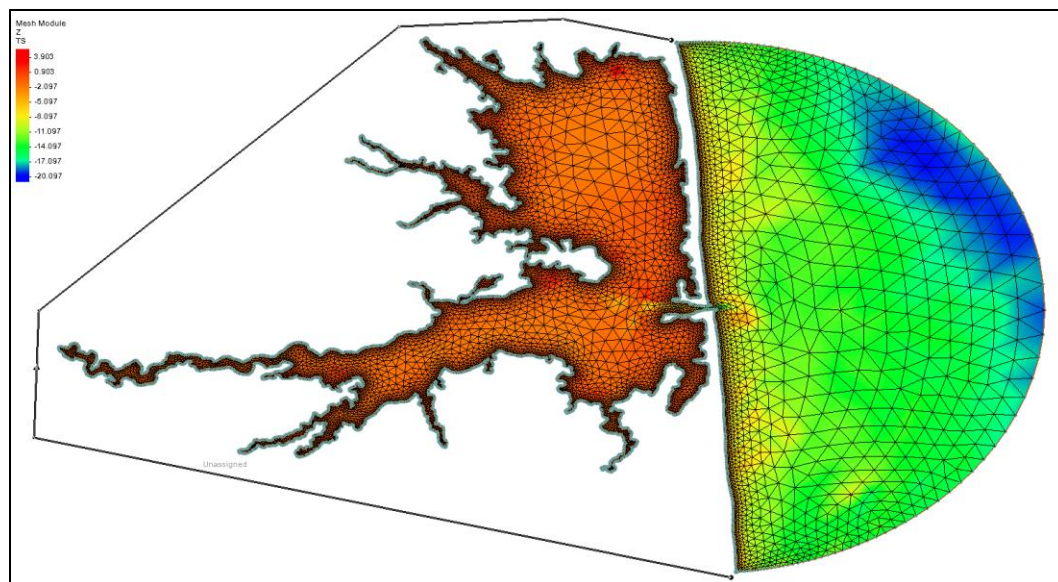

Figure 2: The Mainland/coastline Arc
2. In the *Graphic Window*, create an arc that starts near one end of the coastline, wraps around the bay and ends near the other coastline end as shown in Figure 2. The order is not important, nor is the number of vertices. It should start near the "corners" where the coast intersects with the ocean. We will check this later.
2. In the *Graphic Window*, create an arc that starts near one end of the coastline, wraps around the ocean portion of the domain and ends near the other coastline end as shown in Figure 2. It is a good idea to make the ends of this arc snap to the ends of the arc created in the previous section. Again, the order is not important, nor is the number of vertices.